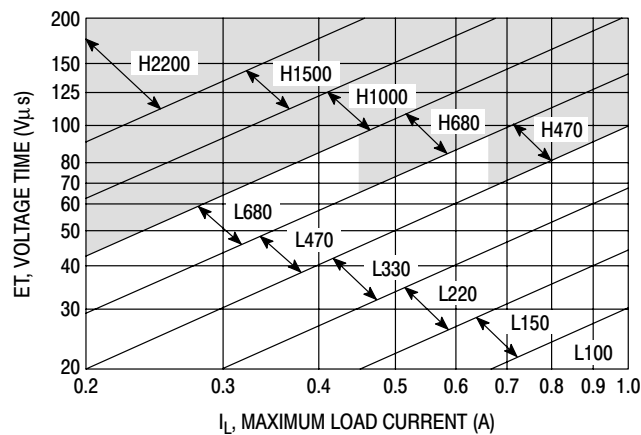

Figure 21. LM2575-Adj
4. Inductor Selection (L₁) A. Use the following formula to calculate the inductor Volt x microsecond [V x μs] constant: $E \times T = (V_{in} - V_{out}) \frac{V_{out}}{V_{on}} \times \frac{10^6}{F[\text{Hz}]} \text{ [V x } \mu\text{s]}$ B. Match the calculated E x T value with the corresponding number on the vertical axis of the Inductor Value Selection Guide shown in Figure 21. This E x T constant is a measure of the energy handling capability of an inductor and is dependent upon the type of core, the core area, the number of turns, and the duty cycle. C. Next step is to identify the inductance region intersected by the E x T value and the maximum load current value on the horizontal axis shown in Figure 21. D. From the inductor code, identify the inductor value. Then select an appropriate inductor from the Table 1 or Table 2. The inductor chosen must be rated for a switching frequency of 52 kHz and for a current rating of $1.15 \times I_{load}$. The inductor current rating can also be determined by calculating the inductor peak current: $I_{p(\text{max})} = I_{\text{Load}(\text{max})} + \frac{(V_{in} - V_{out}) t_{on}}{2L}$ where t_{on} is the "on" time of the power switch and $t_{on} = \frac{V_{out}}{V_{in}} \times \frac{1}{f_{osc}}$ For additional information about the inductor, see the inductor section in the "External Components" section of this data sheet.	4. Inductor Selection (L₁) A. Calculate E x T [V x μs] constant: $E \times T = (12 - 8.0) \times \frac{8.0}{12} \times \frac{1000}{52} = 51 \text{ [V x } \mu\text{s]}$ B. E x T = 51 [V x μs] C. $I_{\text{Load}(\text{max})} = 1.0 \text{ A}$ Inductance Region = L220 D. Proper inductor value = 220 μH Choose the inductor from the Table 1 or Table 2.